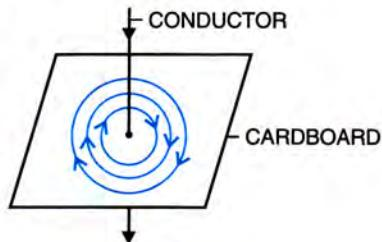

Fig. 10.10
- (a) Fig. 10.10 shows the pattern in which the iron filings will set themselves. The arrows show the direction of the magnetic field lines.